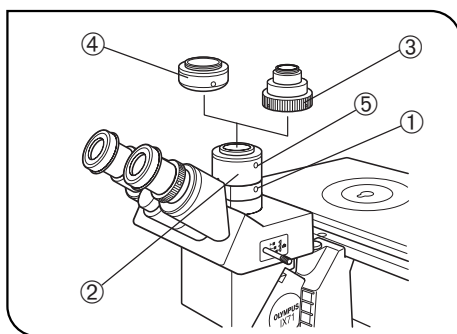

Fig. 75
(Fig. 75)
1. Using the Allen screwdriver, loosen the clamping screw ① on the trinocular observation tube H.
2. Fit the IX-TVAD TV adapter ② into the straight photo tube and tighten the clamping screw ①. (Fig. 75)
3. Firmly screw the U-CMT C-mount adapter ③ or U-FMT F-mount adapter ④ into the IX-TVAD TV adapter ②. (Fig. 75)
2. Lightly loosen the clamping screws ① and ⑤. (Fig. 75)
3. While observing the monitor image and holding the U-CMT ③ or U-FMT ④ stationary, rotate the IX-TVAD ②. Tighten the clamping screws ① and ⑤ when the monitor image is in focus. (Fig. 75)